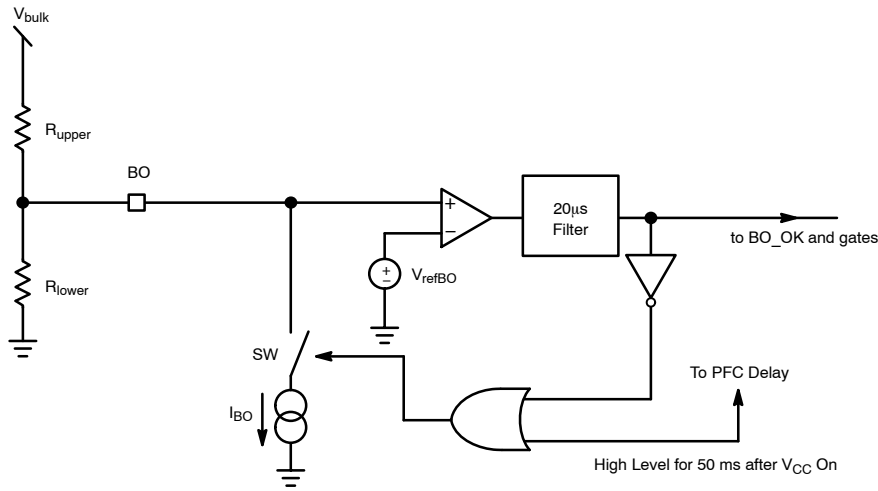

Figure 23. The internal Brown-Out Configuration with an Offset Current Sink
The Brown-Out circuitry (BO) offers a way to protect the application from low DC input voltages. Operation is blocked below a set threshold. Hysteresis is provided by the switched current source providing stable operation. The internal circuitry, depicted by Figure 23, offers a way to monitor the high-voltage (HV) rail.